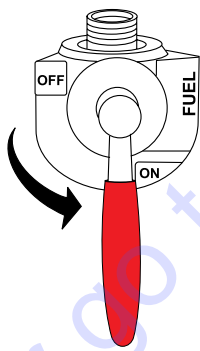

Figure 34. Fuel Tank Valve Lever (ON)
3. Return the fuel tank ON/OFF valve (Figure 34) to the ON position.